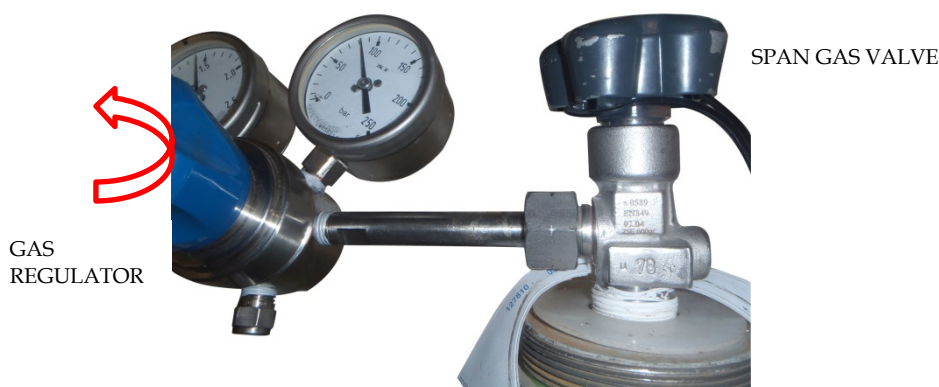

Figure 10      *Valve and regulator on span gas cylinder*
- 14) Make sure the gas regulator (refer to Figure 10) is fully closed.
- 16) Open span gas valve on the cylinder and carefully open gas regulator (several turns clockwise) until flowmeter, FI-11, under AC (refer to Figure 10) shows 1.0 l/min.